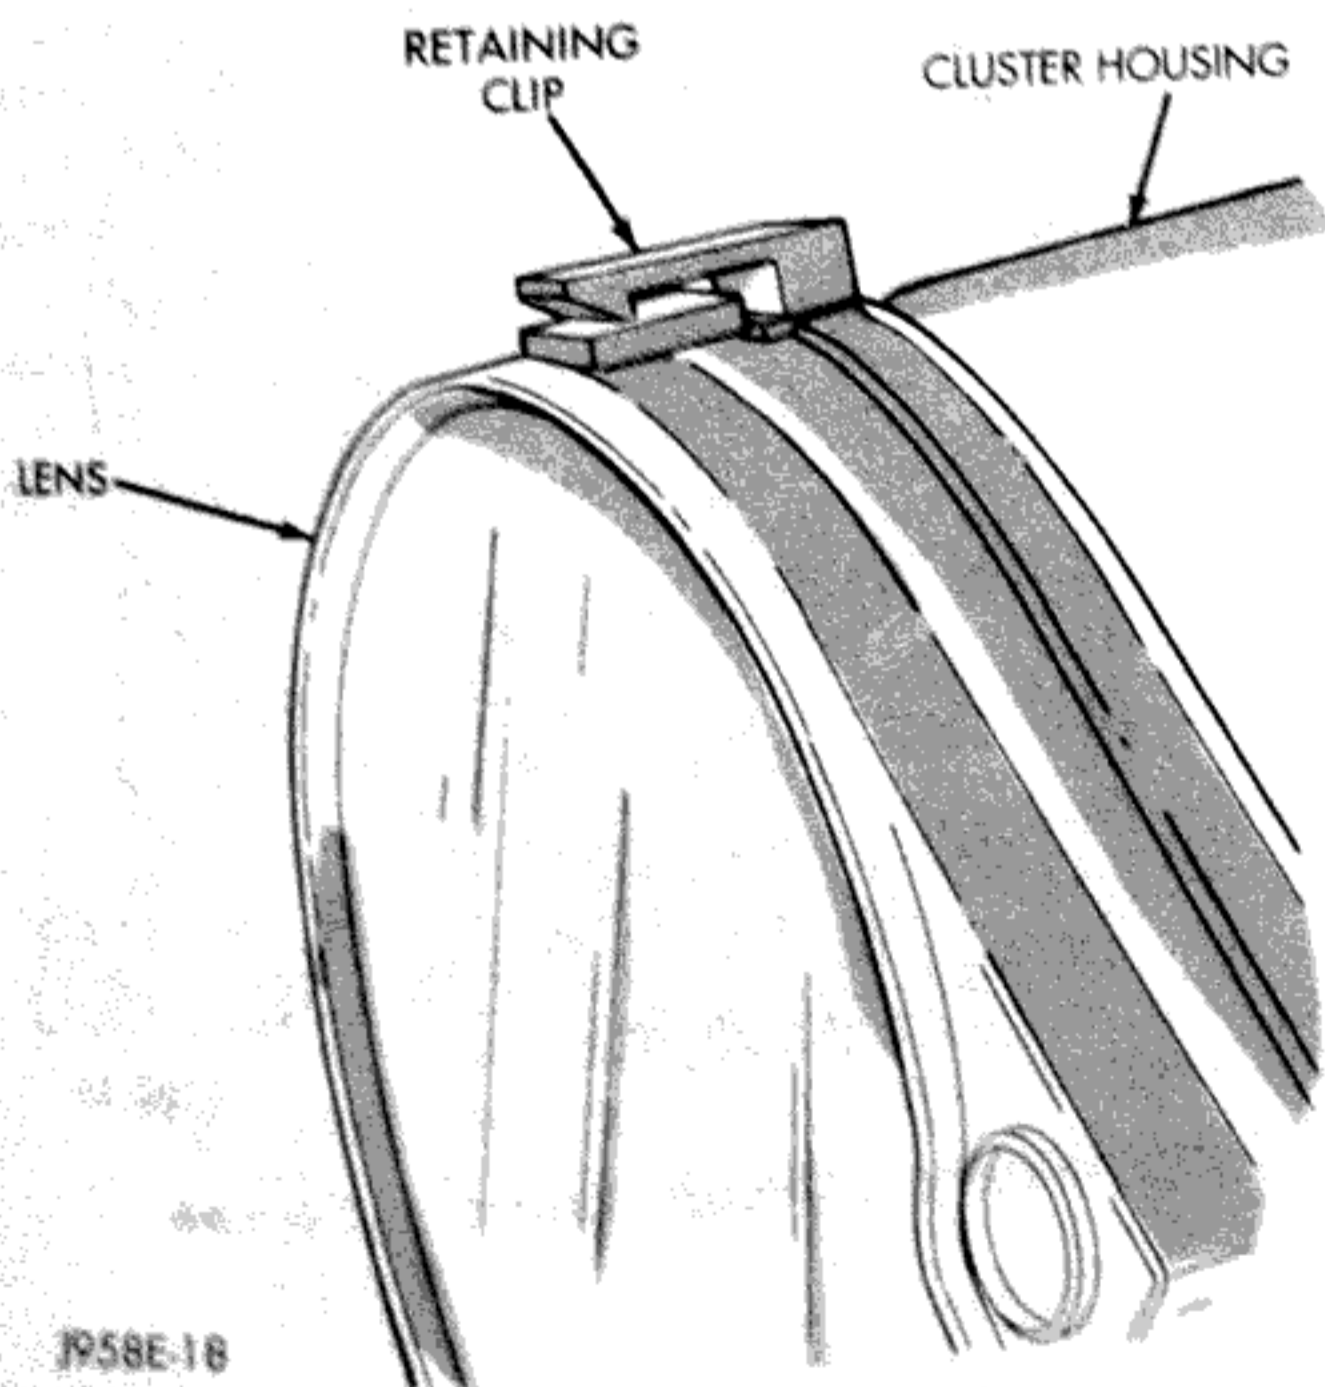

Fig. 14 Lens Retaining Clip
- (3) Gently pry up retaining clip to release lens and mask from cluster (Fig. 14).